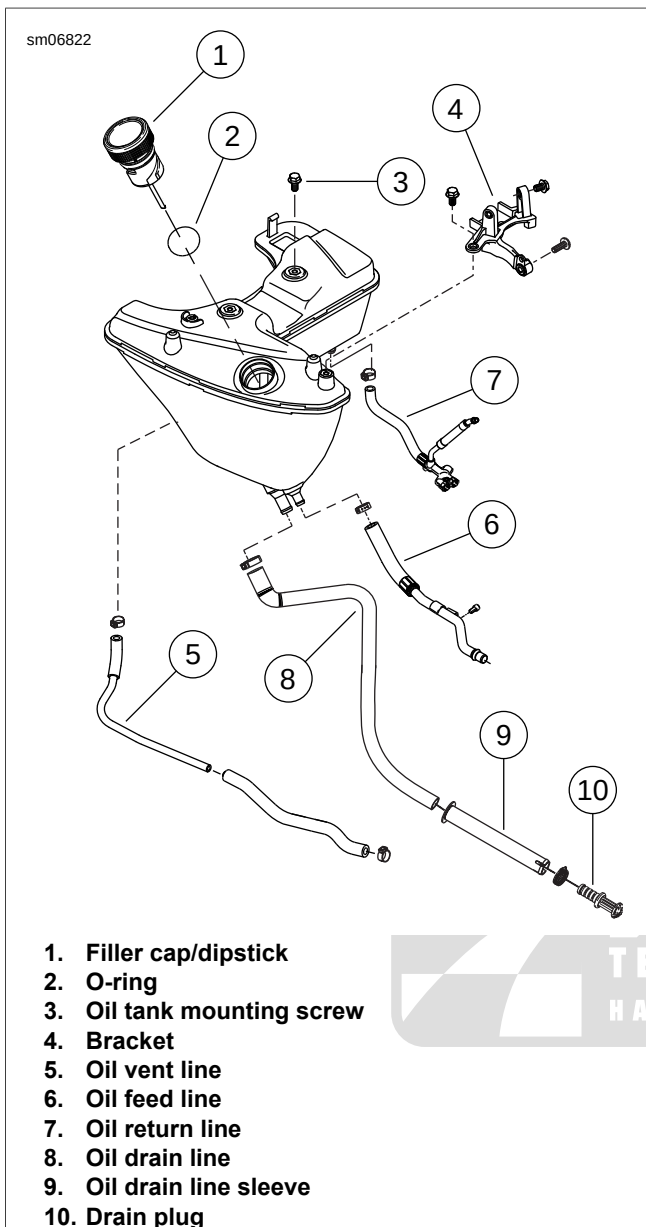
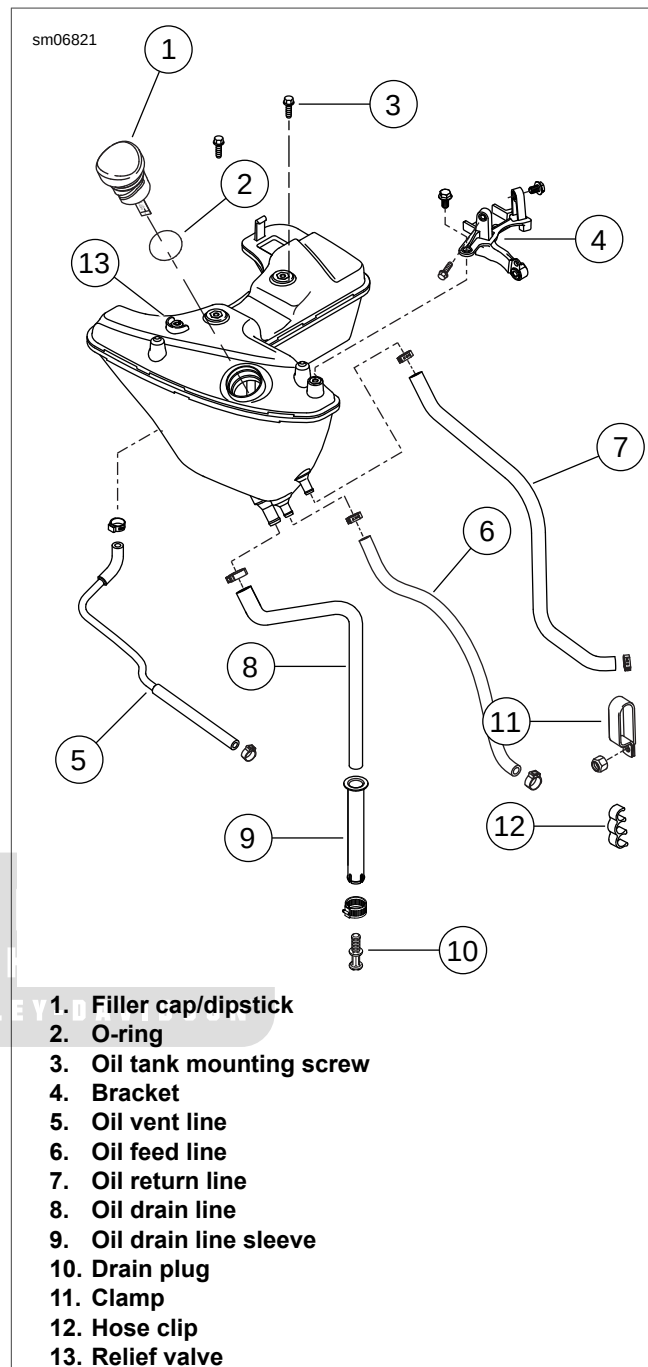

Figure 3-175. Engine Oil Tank Assembly: XR 1200X
Figure 3-176. Engine Oil Tank Assembly: XL Models
2. See Figure 3-175 or Figure 3-176. Install oil tank mounting screw (3) through bracket (4) and loosely screw into oil tank to hold tank in place.